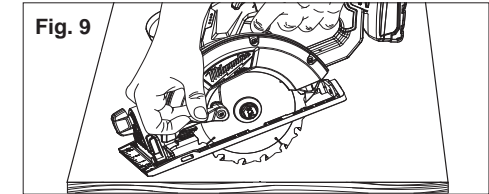

Fig. 9
1. Beginning at a corner, line up the sight line with your cutting line. Tilt the saw forward, firmly fixing the front of the shoe on the workpiece (Fig. 9). The blade should be just above cutting line, but not touching it. Raise the lower guard using the lower guard lever.